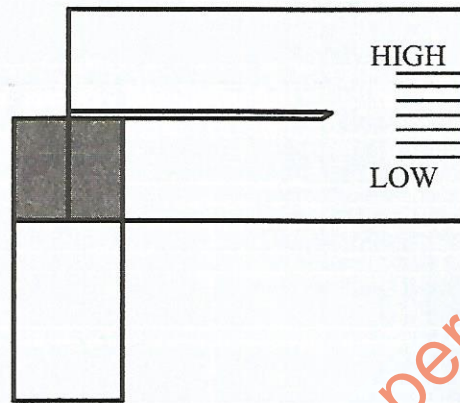

Figure 3
- (a) Using tools and materials provided, make a simple model of the weather instrument as shown in Figure 3. (4 marks)